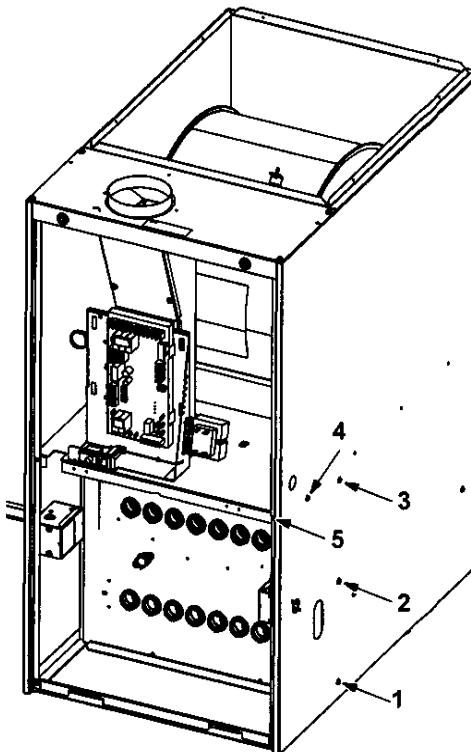

Figure 31
10. Remove heat exchanger. It may be necessary to spread cabinet side to allow more room. If so, remove five screws from the left side or right side of cabinet. See Figure 31.